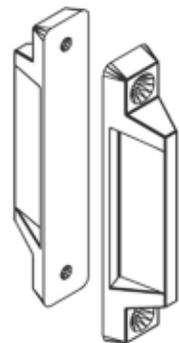

Figure 10
- L. The handle set can be positioned as desired (Figure 10.) Set the inside handle in the desired location on the drawbar, insuring clearance for the main door handle/knob, and with a felt tip pen, mark the screw hole locations. Using a 1/8" drill, drill two holes and secure the handle to the drawbar using #8 x 3/4" flat head screws. Repeat for the outside handle.